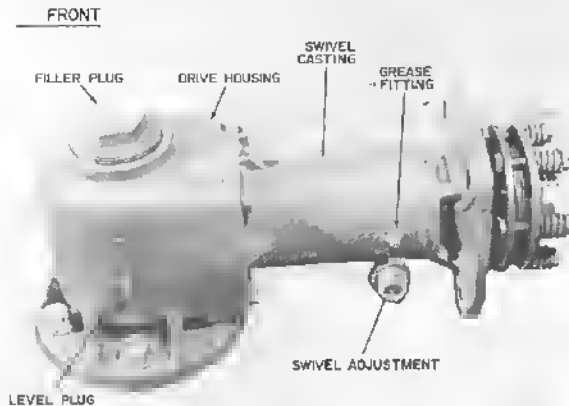

fig 6
3. Remove filler plug and level plug, fig 6. Fill the gear drive housing to the oil level plug with SAE 90 gear lubricant. Replace the plugs. Check the level periodically especially if signs of leakage are present.
4. Grease the swivel casting through the grease fitting on the casting with general purpose grease. Add grease until it comes out under the swivel adjustment fig 6. Regrease every 8 HOURS of operation.
2. CASTERS: The caster wheels should be adjusted (if necessary) after the mower is attached to a tractor. Raise or lower the casters, by use of the spacers, to make the mower level with the ground, fig 6, Item 46.